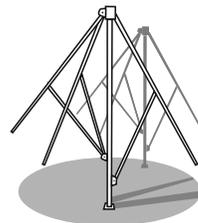
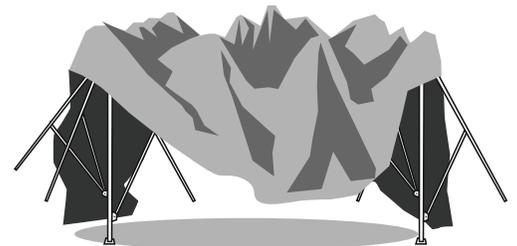

Fig. 4A
Fig. 4B
- 4 Open the canopy frame to about 75% and pull the awning arms out until locks into 1st position as pictured in **(Fig. 4A)**. Drape the canopy top over the frame. Opening in the center of top accommodates canopy vent tops. Make sure long portions of canopy top are on the two sides where the awning arms are located as pictured in **(Fig. 4B)**.